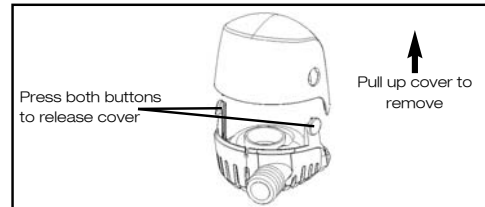

Fig. 2
To remove pump body, place hand over body, depress locking tabs (eyes) and lift body from strainer base. Note: Motor will be removed with body. (see figure 2).
- Re-attach pump body to base. Insert body into strainer base, until base tabs snap into holes in body. (see figure 2).